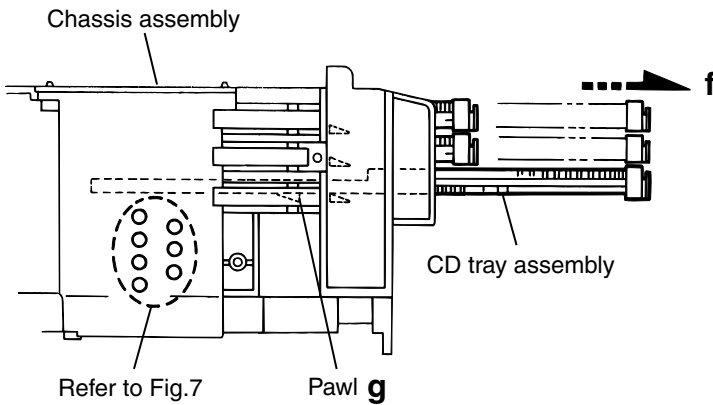

Fig.6
12. Make sure that the driver unit elevator is positioned as shown in Fig.6 from the second or fifth hole on the left side face of the CD changer mechanism assembly.
14. Pull out all of the three stages of CD tray assembly in the arrow direction "f" until these stages stop (See Fig.6).